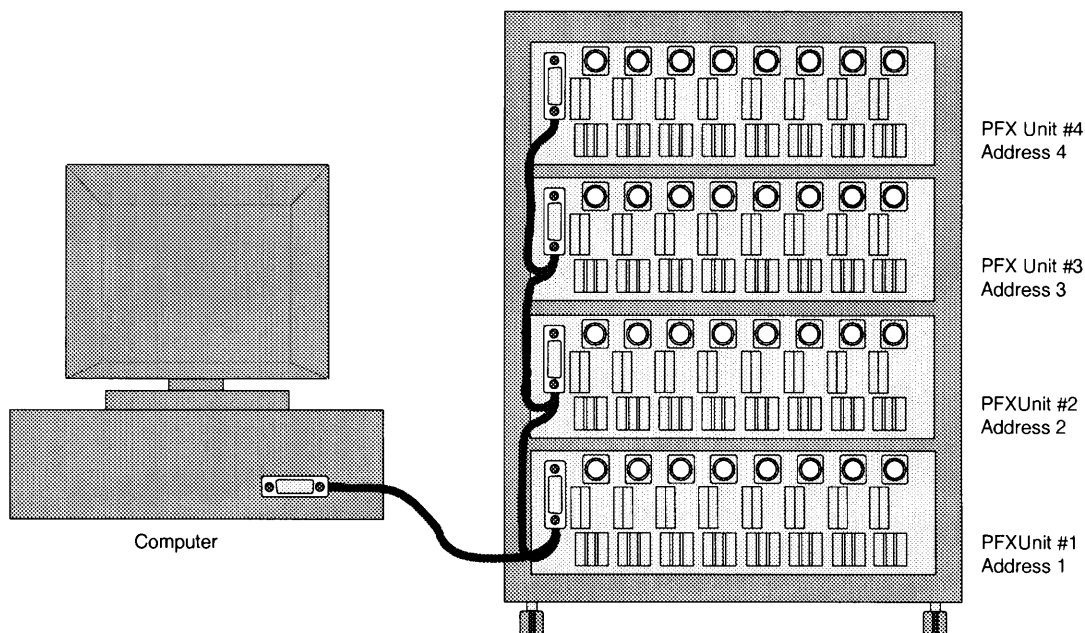

Figure 2-3 Four-Unit PFX System
- GPIB addresses are assigned in order beginning from the first PFX unit. For example, if there are four PFX units, they must be assigned addresses "1", "2", "3" and "4", respectively. See Figure 2-3.
- ① Turn off the power switch of both the PFX unit and the computer.
- ② Connect one end of the GPIB cable connector to the GPIB board in the computer, and tighten with fastening screws.
- ③ Check that an "IB11 (interface board)" has been installed in the option slot on the rear panel of the PFX unit. If one has not been installed, install one.
- ④ Connect the other end of the cable referred to in Step ② to the "IB11", and tighten with fastening screws.
- ⑤ When using multiple PFX units, connect PFX units in series using GPIB cables. See Figure 2-3.